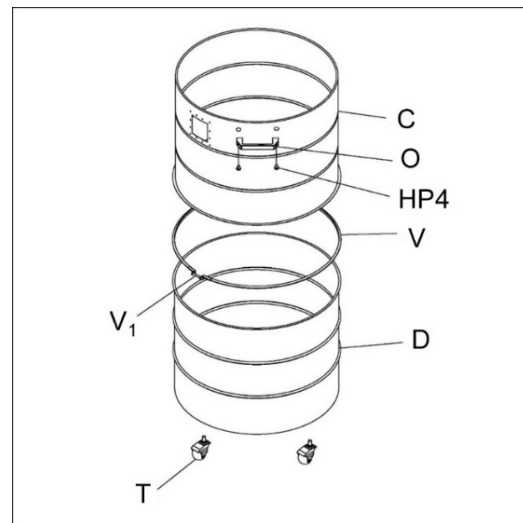

Figure 5-9
17. Assemble upper drum (C, Figure 5-9) to lower drum (D) and secure with drum clamp (V) by tightening screw (V1).
18. Install handle (O) with screws (HP4). Handle should be opposite side from lower ports.
19. Turn drum over and install casters (T) into threaded holes beneath drum. Use the provided wrench to tighten.